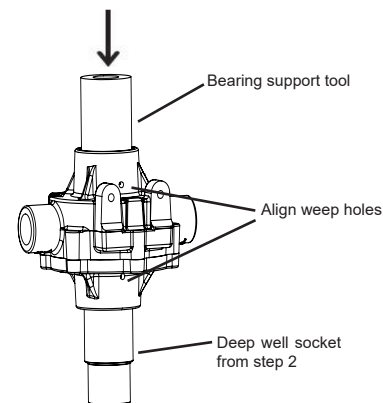

Figure 9
7. Place housing (containing bearing and seal from step 3) onto pump shaft. Align the weep holes of housing and cover as shown in Figure 9.
8. Place bearing assembly tool over shaft and press housing until it stops against cover (see Figure 9).